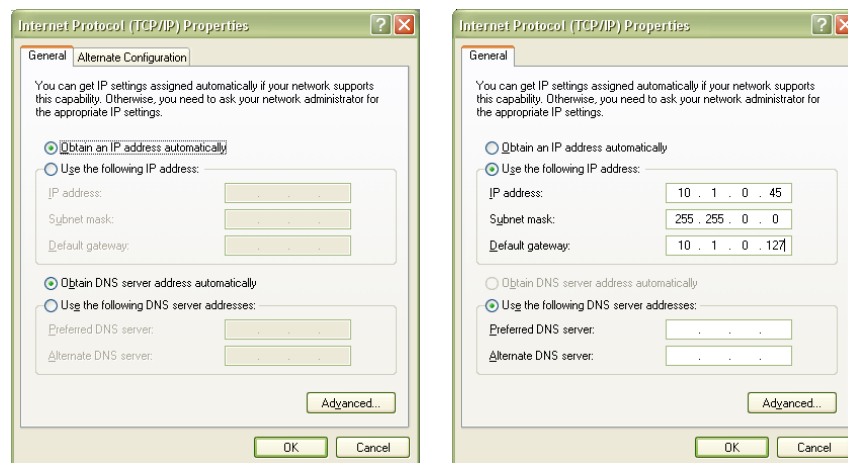

FIGURE 2-4: DYNAMIC (LEFT) AND STATIC (RIGHT) IP ADDRESS CONFIGURATIONS
- 5) Determine if the PC is set to use auto or static IP. Figure 2-4 shows examples of both auto and static IP address configurations.